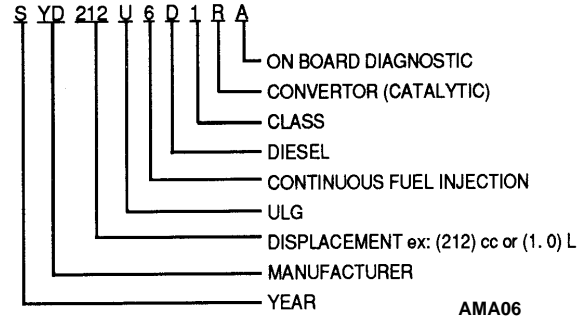

Figure 2: Engine Family Name
- b. Engine Family Name, as assigned by the California Air Resources Board, identifies engine family group, by largest displacement, within an engine family, and is shown in Figure 2.